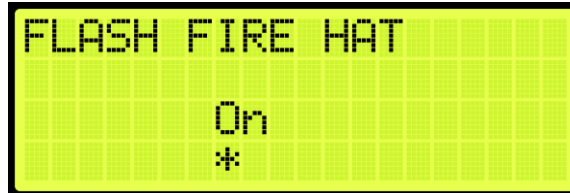

Figure 599: FLASH FIRE HAT Menu
5. From the FLASH FIRE HAT menu, scroll and select On (See Figure 599).